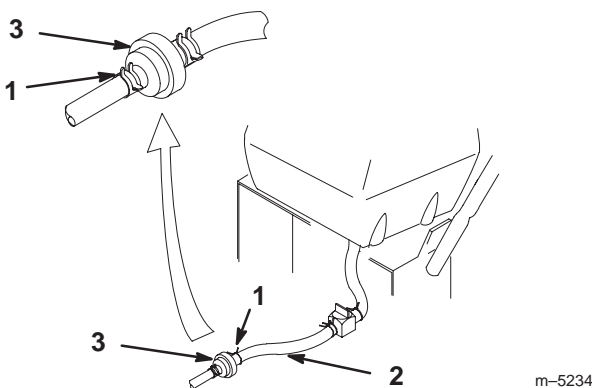

Figure 45
4. Squeeze the ends of the hose clamps together and slide them away from the filter (Fig. 45).